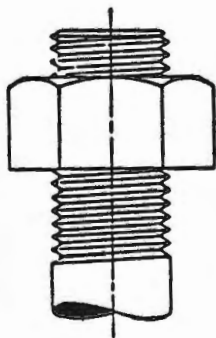

Figure 1.12 Screw and nut.
1. **Helical motion**: When a body has rotation combined with translation along the same axis of rotation, that body is said to be in helical motion. The most common example is the turning of a nut on a screw (see Figure 1.12). The nut rotates and at the same time translates along the axis of rotation.